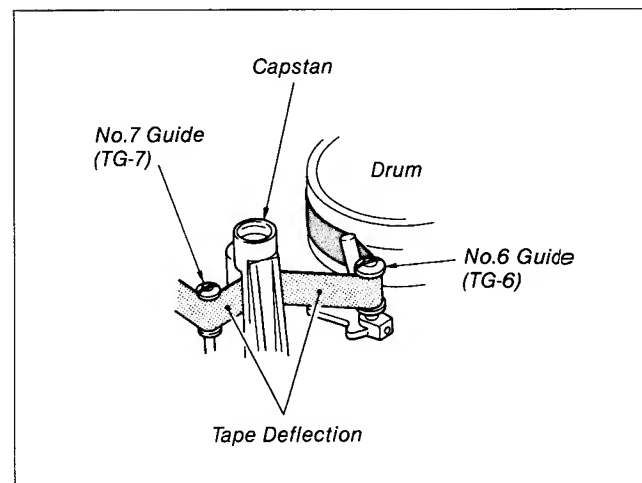

Fig. 8-61.
- 2) Confirm that there is no tape deflection between the No.6 guide (TG-6) and capstan. (Refer to Fig. 8-61.) When the tape has a deflection, adjust to remove the deflection by turning the No.7 guide (TG-7).